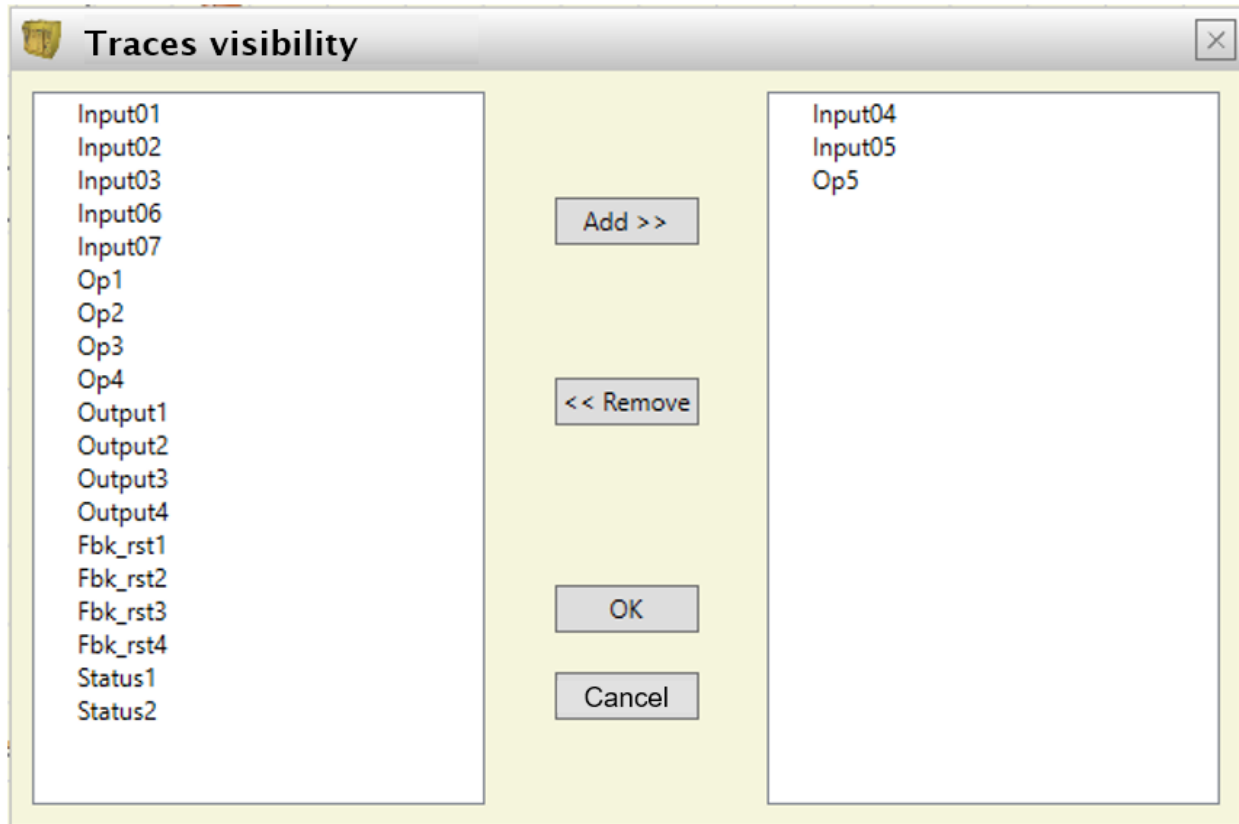

Figure 93 - Traces visibility.
**Traces visibility:** used to select the traces (signal waveforms) to be displayed in the graph. When you press this key, it opens a pop-up window as shown in Figure 93 from which you can add or remove traces to or from the graph.